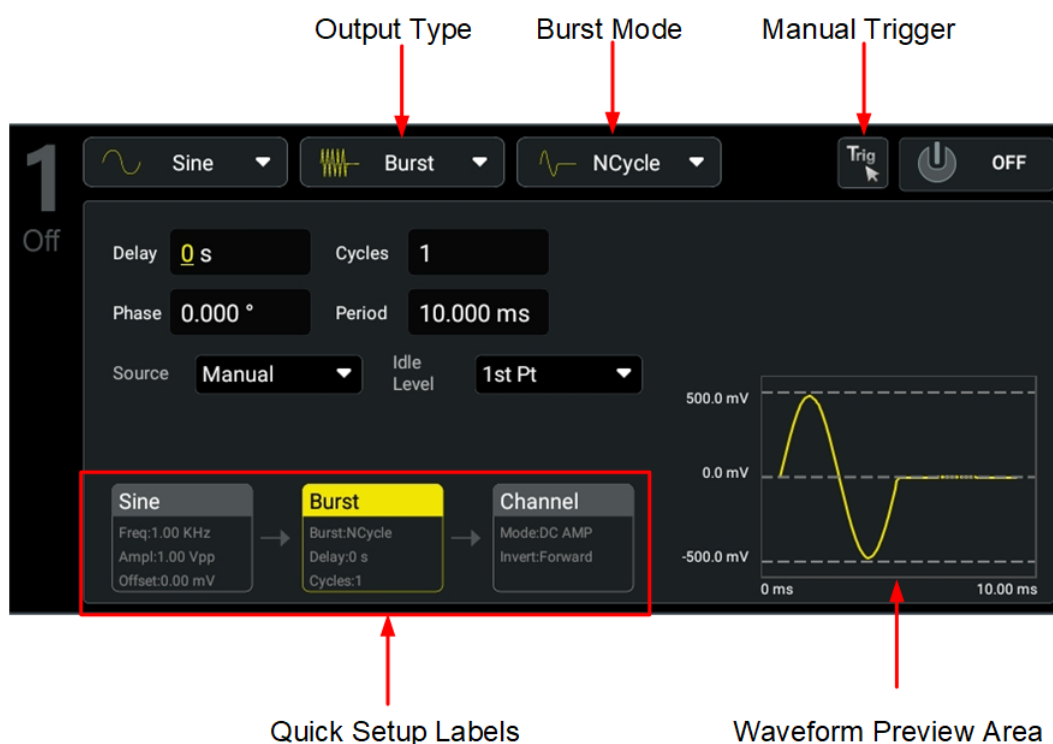

Figure 21.4 Burst Mode Interface
- **Manual:** You can initiate a burst immediately by clicking or tapping the Manual Trig key  in the interface as shown in *Figure 21.4*.